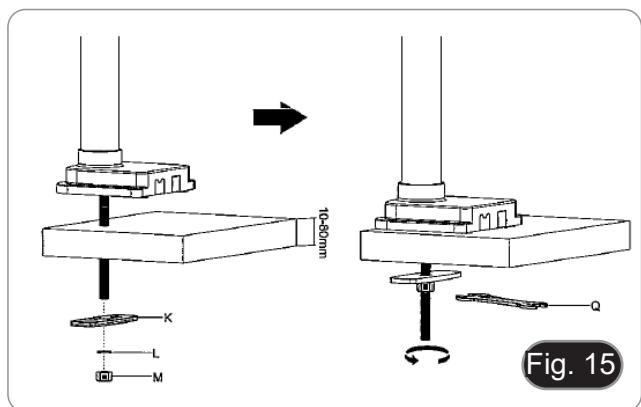

Fig. 15
6. Insert the screw (I) into the hole of the table.
7. Fix the assembly using the fixing plate (K), the washer (L) and the nut (M).
8. Tighten the nut using the spanner (Q). (Fig. 15)